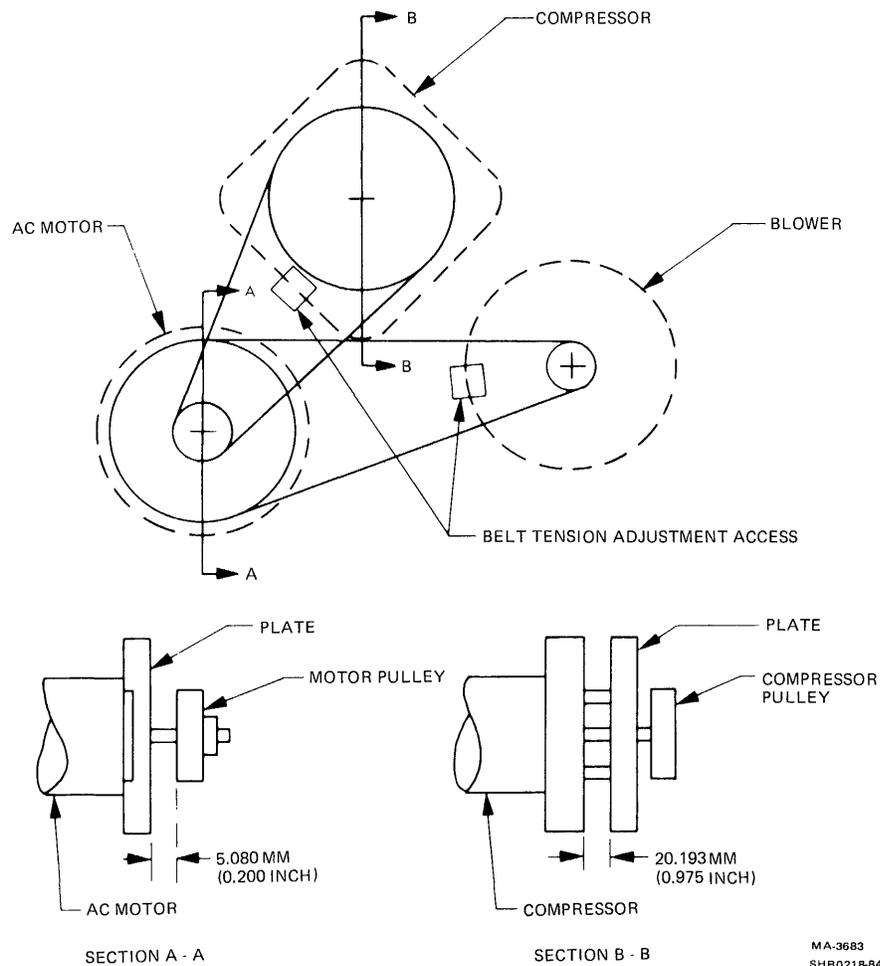

Figure 6-6 Blower and Compressor Pulley Alignment
8. Reassemble in reverse order aligning pulley on shaft set (Figure 6-6). Manually rotate motor clockwise and make sure both belts track completely on pulleys. Some slight shift of motor pulley may be necessary.
3. Loosen blower mounting screws. Slide blower left and slip belt off pulley (Figure 6-6).
9. Reassemble in reverse order using steps 3 through 6 and setting pulley position according to Figure 6-6.